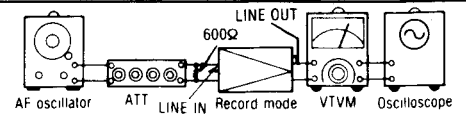

Fig. 16
- B. Adjust VR201 so that the 0dB segment of the FL meter lights up with the input level of  $0 \pm 0.2$ dB range of the standard input level (See fig. 16).